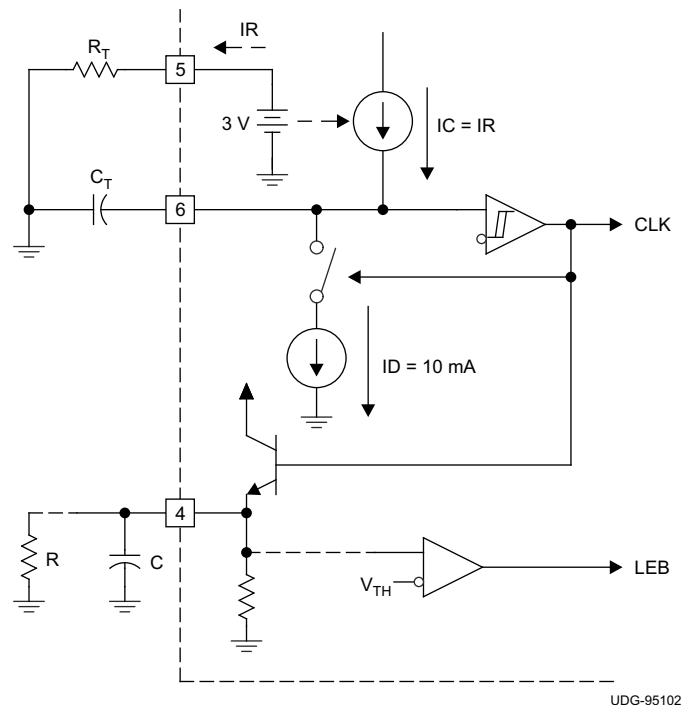
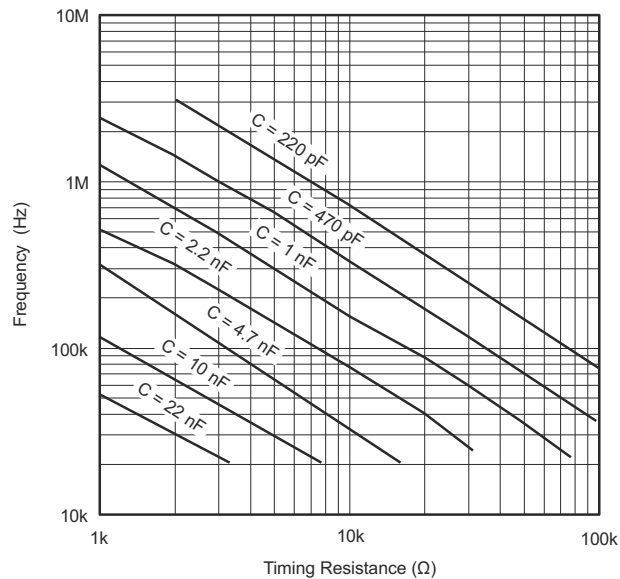
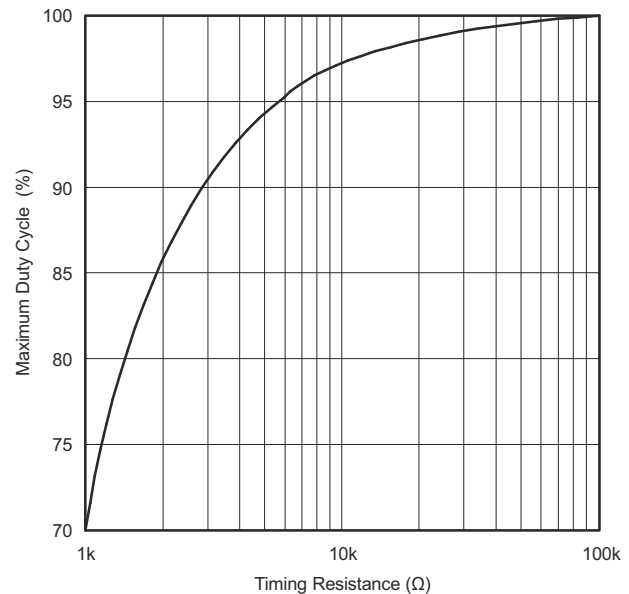

图 8-1. Oscillator
图 8-2. Oscillator Frequency vs Timing Resistance
图 8-3. Maximum Duty Cycle vs Timing Resistance
The oscillator of the UC1825B-SP is a saw tooth (see 图 8-1). The rising edge is governed by a current controlled by the RT pin and value of capacitance at the CT pin ( $C_{CT}$ ). The falling edge of the sawtooth sets dead time for the outputs. Selection of RT must be done first, based on desired maximum duty cycle (see 图 8-3). CT can then be chosen based on the desired frequency (RT) and  $D_{MAX}$  (see 图 8-2). 方程式 1 shows the design equations.